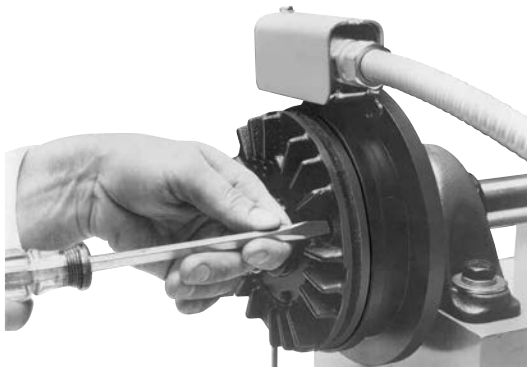

Figure 11
4. Remove the screws that attach the friction material segments to the clutch rotor through the appropriate access holes. (See Figure 11)